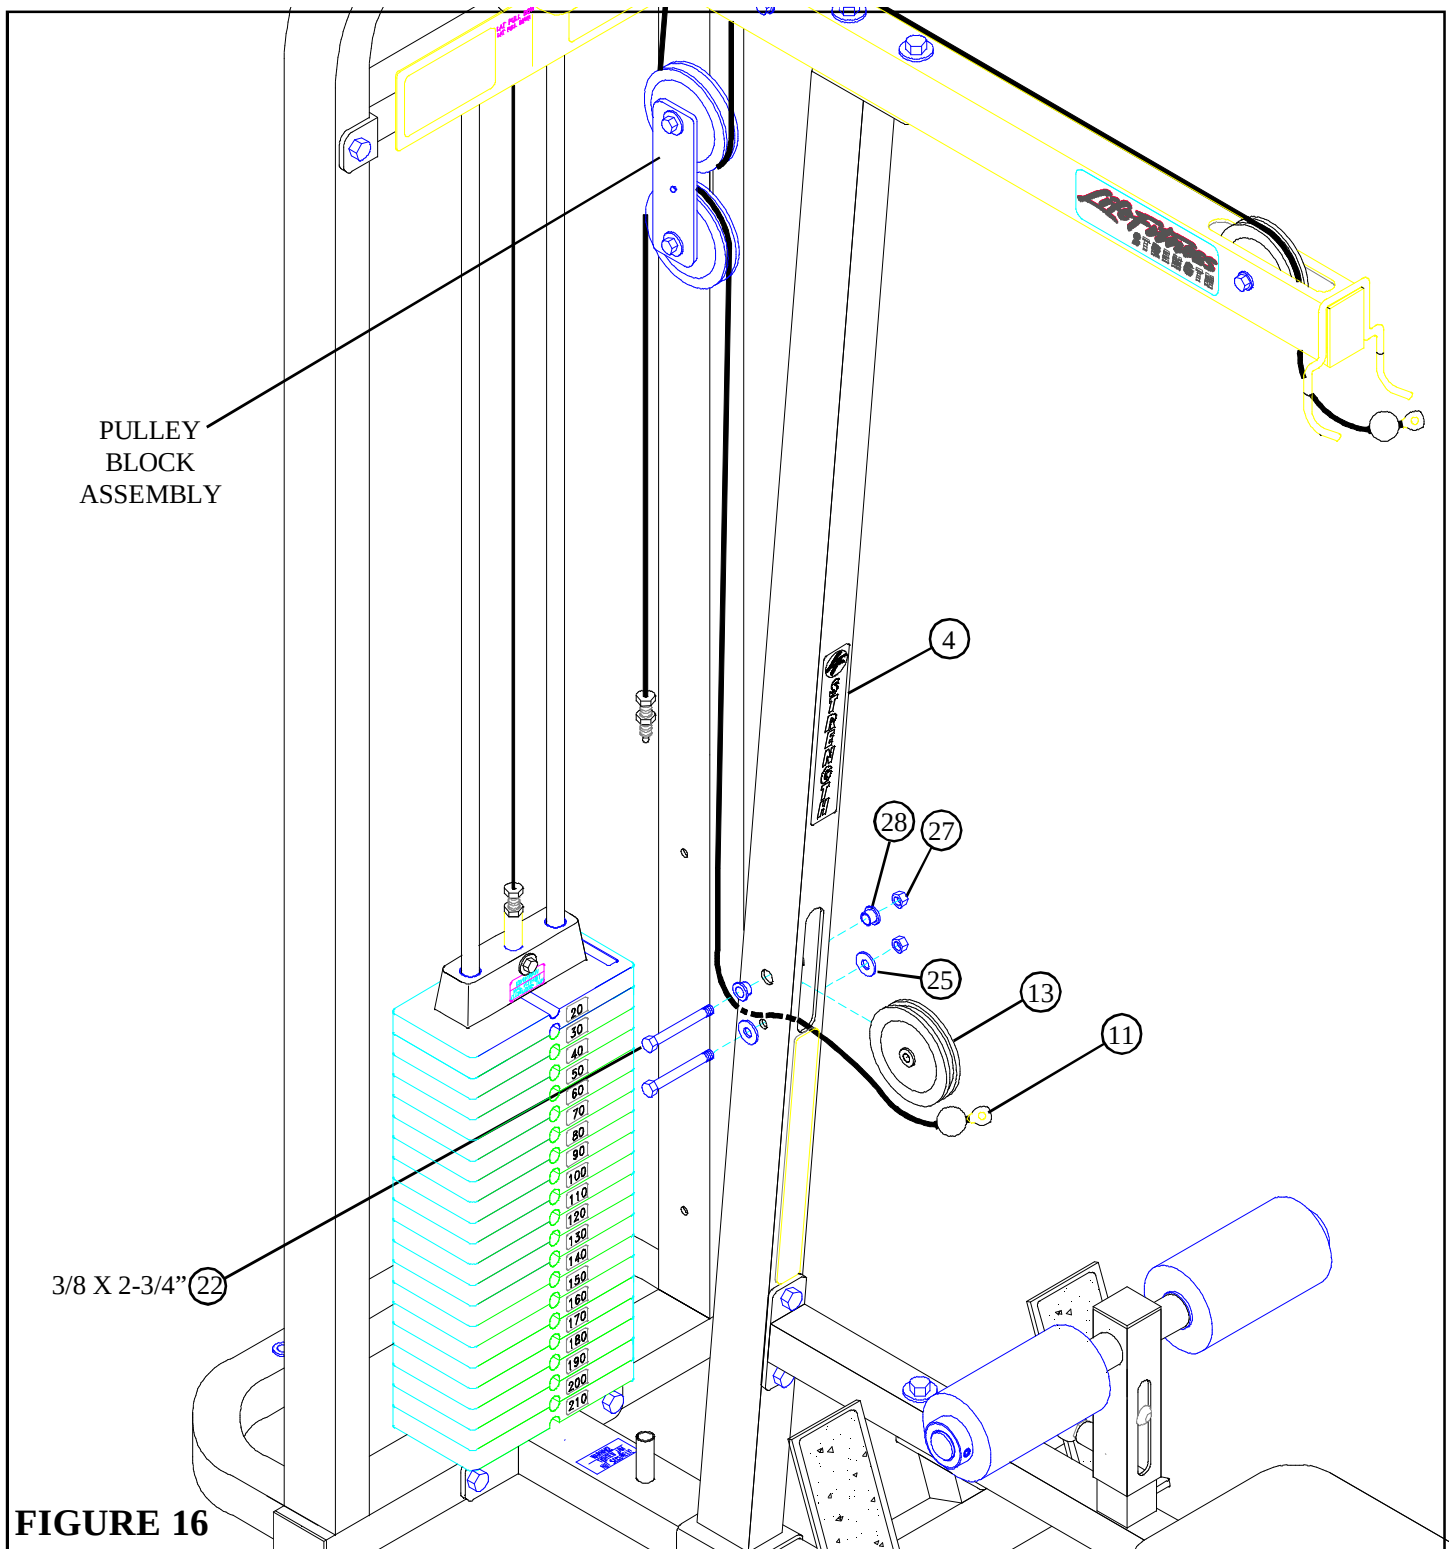

FIGURE 16
- Route the threaded end of the 112-3/4" LOW ROW CABLE (11) through the UPRIGHT (4) as shown, then **SECURELY** assemble one 4-1/2" PULLEY (13) to the UPRIGHT (4) and over the top of the cable using two 3/8 X 2-3/4" BOLTS (22), two 3/8" FLANGE SPACERS (28), two 3/8" WASHERS (25), and two 3/8" LOCKNUTS (27). (**NOTE: The LOW ROW CABLE (11) should be routed over the retaining bolt as shown in FIGURE 16.**)
- Route threaded end of the 112-3/4" LOW ROW CABLE (11) around the bottom pulley of the PULLEY BLOCK ASSEMBLY as shown in FIGURE 16.